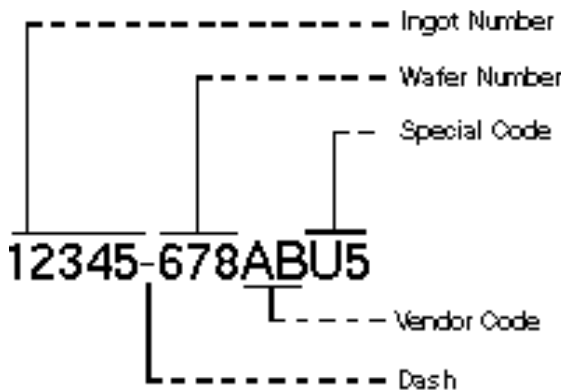

Figure 3
6.1 *Code* — Limited to one line of 20 characters maximum (see Figure 3 and Table 3 for an example using 15 characters). The first five to ten characters are an identification number which is unique to the ingot for a given supplier. This is followed by a dash, which is followed by three digits which indicate the wafer number, as numbered starting from the seed end of the ingot. The next two alpha characters identify the supplier according to Appendix 1. The last optional characters are specified by the supplier or customer. For example, these characters could be used to differentiate specifications, orientation, or doping. The character string (using a five character ingot as example) is constructed as follows:
6.3 An example of the code is given in Figure 3.